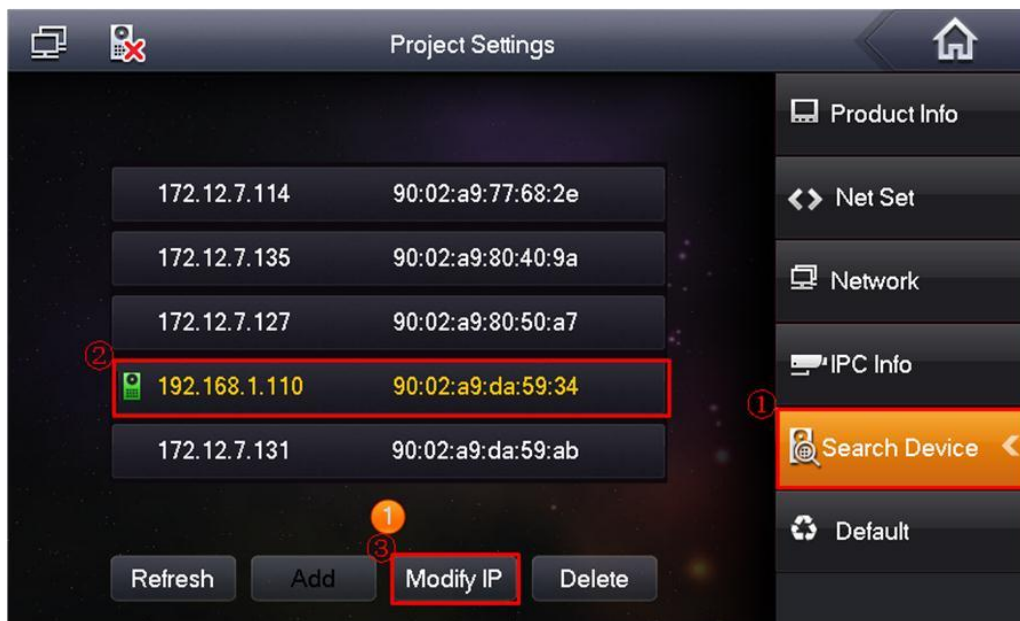

Figure 2-13
- a) On the digital VTH interface, from Settings->Project->002236, select Search device. See Figure 2-13.